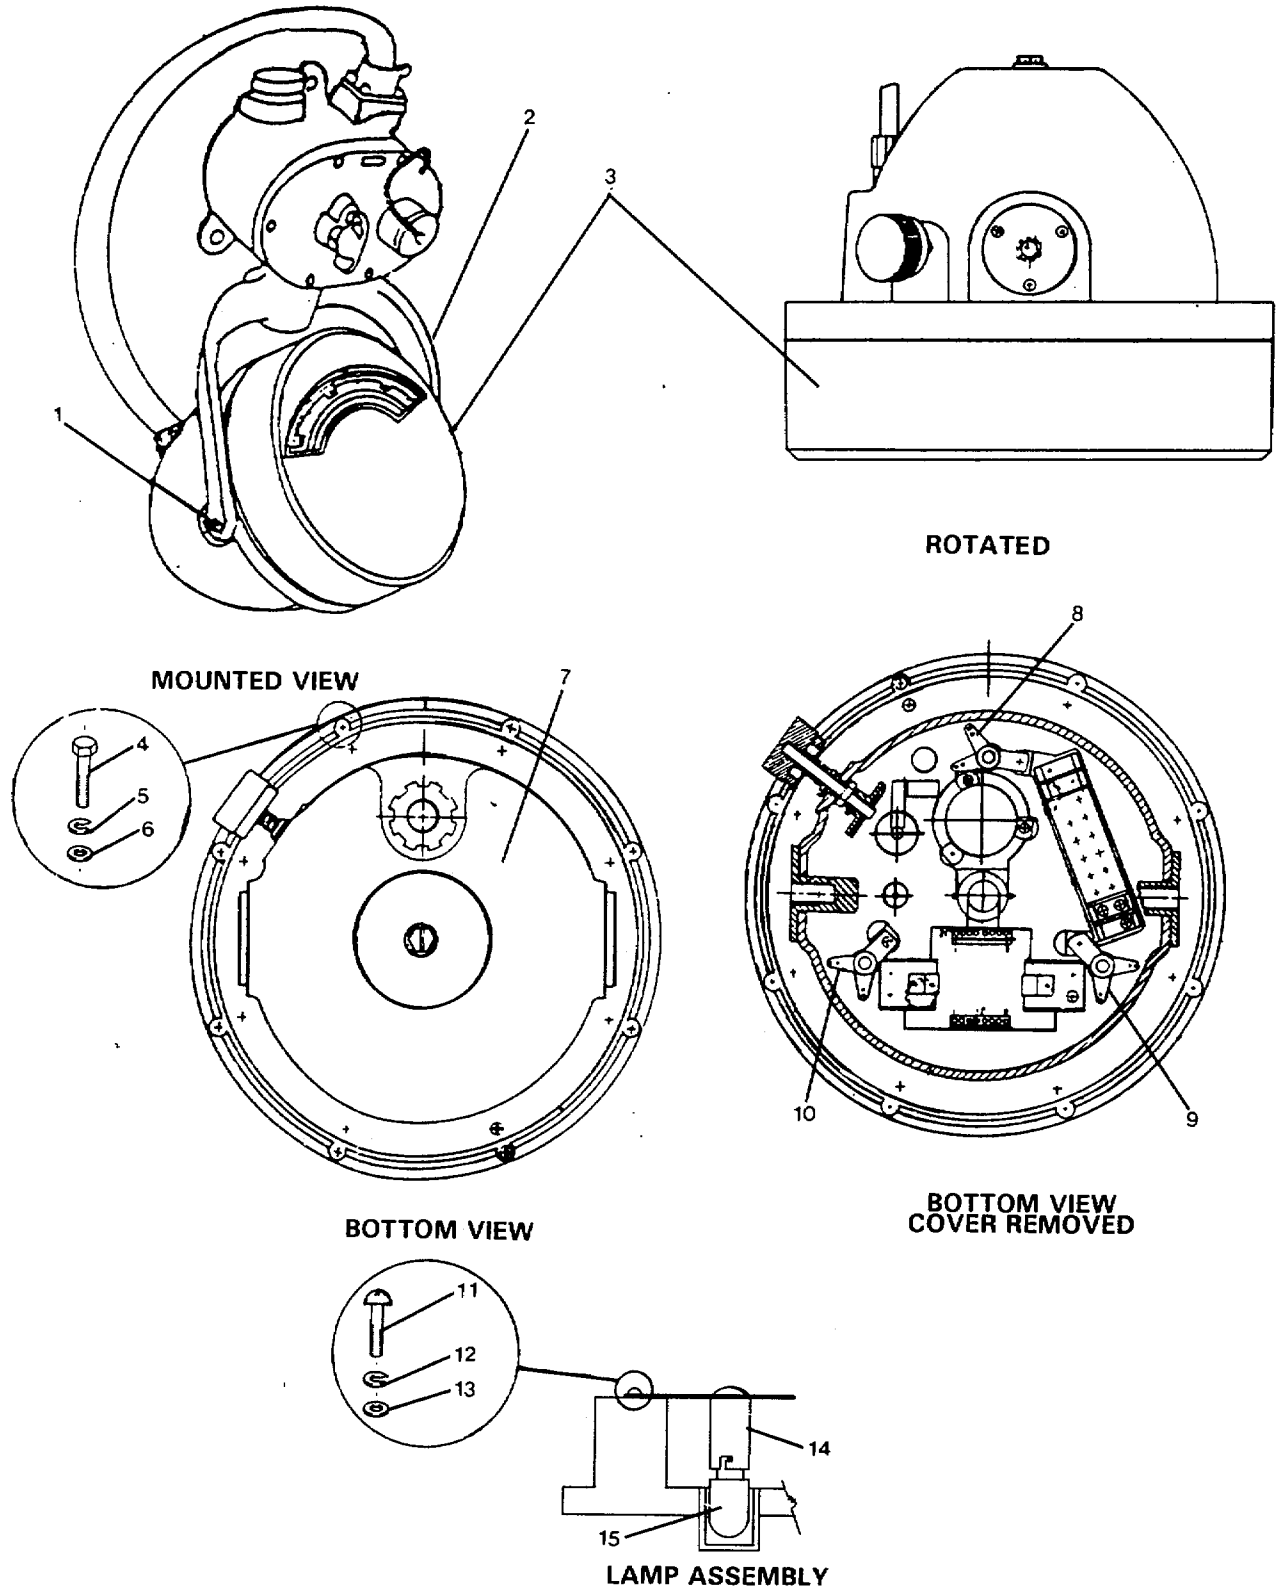

FIGURE 2-10. Open Scale Repeater Lamp Replacement.
2-19. Repair Open Scale Repeater. (FIGURES 2-10 and 2-11)
- a. Lamp replacement. (FIGURE 2-10).
- (1) On bulkhead mounting bracket arms (2), loosen two mounting bolts (1) and rotate repeater (3) to ROTATED position and secure bolts (1).
- (2) Remove eight screws (4), lockwashers (5) and flat washers (6) from cover (7).
- (3) Remove cover (7) from repeater (3) as far as cabling will allow.
- (4) Locate lamp assemblies (8, 9, and 10).
- (5) On appropriate lamp assembly (8, 9, or 10), remove screw (11), lockwasher (12) and flat washer (13).
- (6) Remove lampholder (14) and remove lamp (15).
- (7) Install replacement lamp (15) into lampholder (14).
- (8) Position lampholder (14) and secure with washer (13), lockwasher (12), and screw (11).
- (9) Position cover (7) on repeater (3) and secure with eight flat washers (6), lockwashers (5), and screws (4).